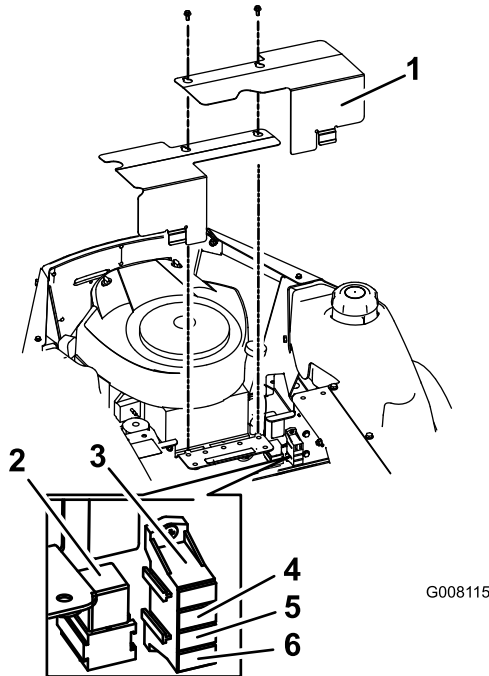

Figure 40
1. Raise the seat to gain access to the fuse holder (Figure 40).
2. Remove the covers as shown in Figure 40.